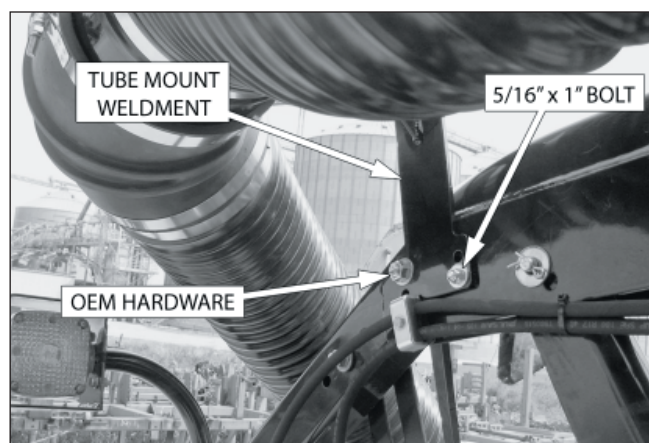

Figure 38, Tube mount weldment
1. Install the tube mount weldment to existing holes in the RH reel arm as shown in Figure 38. Use OEM hardware in the large bolt hole of the tube mount weldment. Use the provided 5/16" x 1" bolt, two washers and one nylock nut in the small bolt hole. Torque 5/16" hardware to 17 ft-lbs.